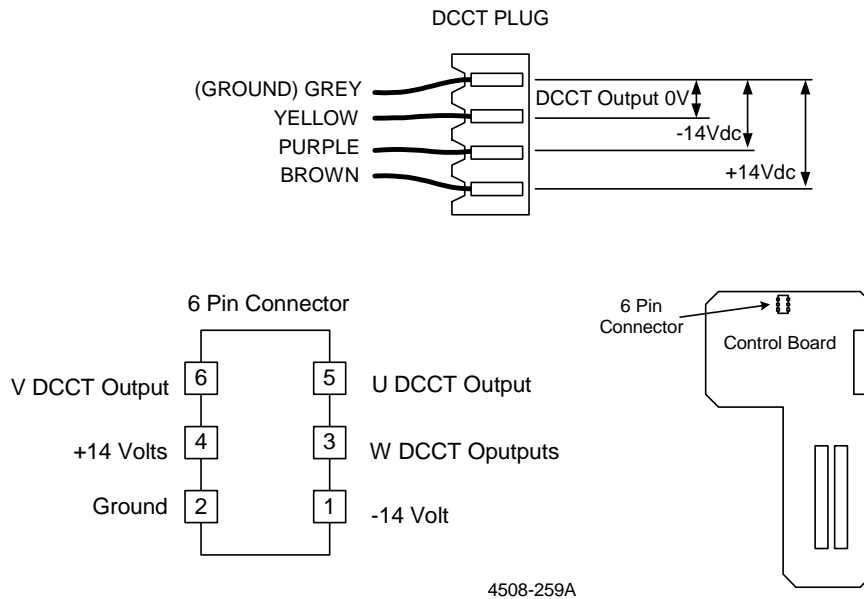

Figure 4.13: DCCT and Supply Testing
- 1) Power up the Elite but do not start, refer to figure 4.13. This drawing shows two options for testing the DCCTs, either test between ground and terminal 1, then between ground and terminal 4 and 6 to confirm the DCCT has a $\pm 14V$ supply or test at the plug. If the $\pm 14V$ supply is not present, unplug the DCCT's and recheck the $\pm 14V$ supply. If the supply has returned, one or more of the DCCTs are faulty. If the supply has not returned, the Control board or Power tray's switch mode power supply may be faulty, see section 3.3.4 to determine which is faulty.